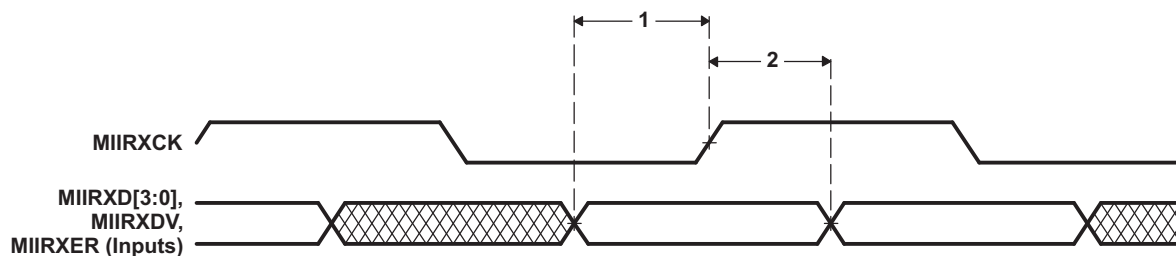

**Figure 5-39. 100/10Mb/s MII Receive Timing**
**Table 5-62. Timing Requirements for EMAC MII Receive (see Figure 5-39)**